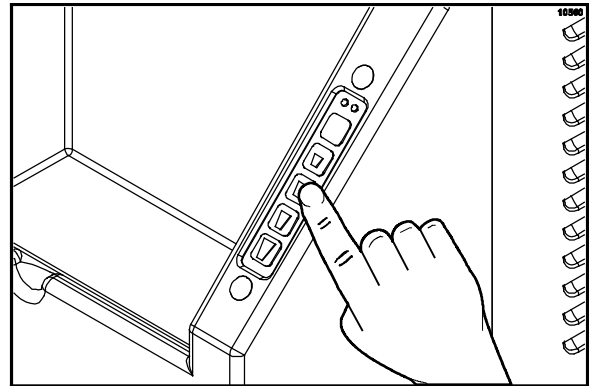

Figure 30
2. Press and release the portion size key: S, M, L, or XL. (See Figure 30.)